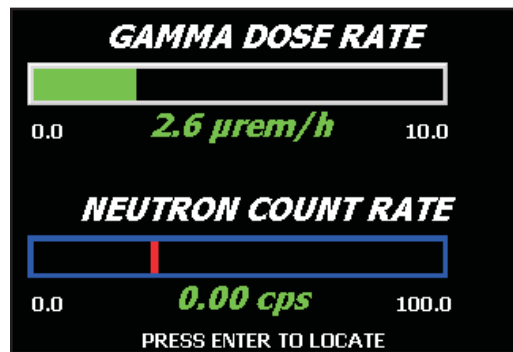

Figure 17 Dose Neutron Display
- Dose Neutron – Displays the current Gamma Dose Rate and the Neutron Count Rate as bargraphs (Figure 17).